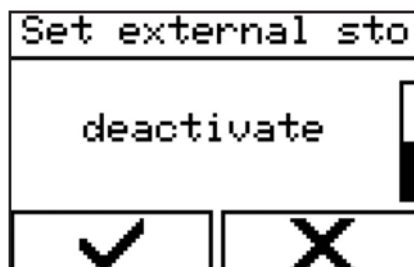

Figure 108 - Deactivating the stop input
3. Select 'Deactivate stop input' (Figure 108).